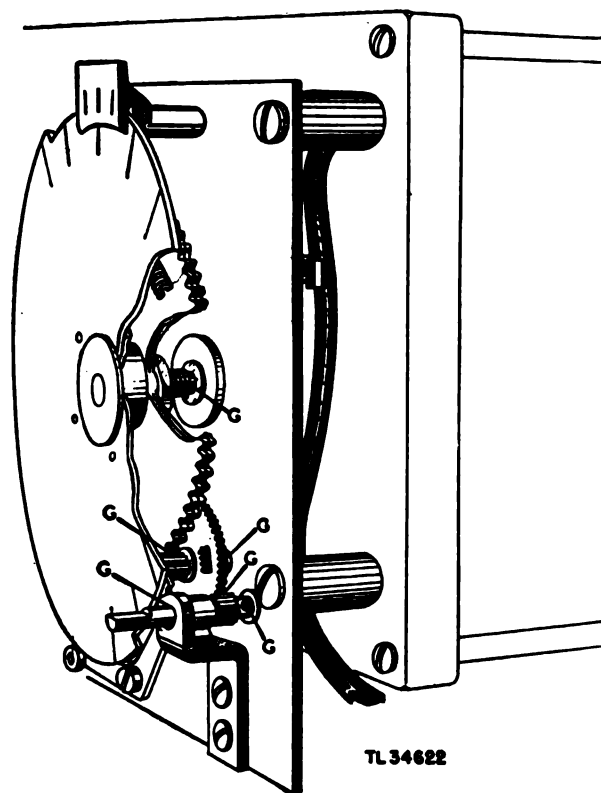

Figure 38. Signal Generator I-222-A, dial mechanism lubrication points.
(3) Check the wiring① for loose cable lacing and frayed insulation.
(4) Inspect the lugs④ on the fuse holders for poor soldering.
(5) Lubricate the tuning mechanism as follows (fig. 38).
(a) Apply grease to the points marked (G) (fig. 38).